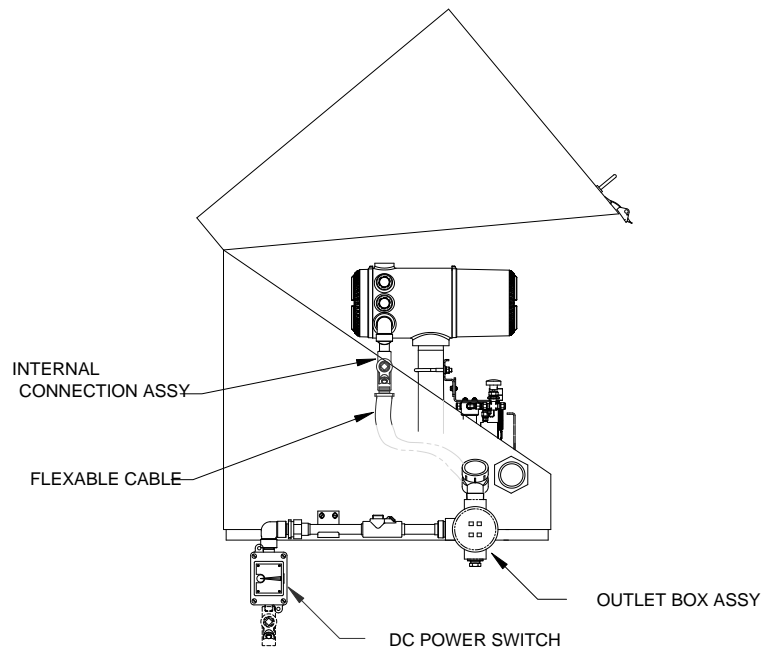

Figure 3-29 ENC82L Large Enclosure
- 7) Feed wires through the small hole located near the sample boot in the lower front of the enclosure (see Figure 3-29).